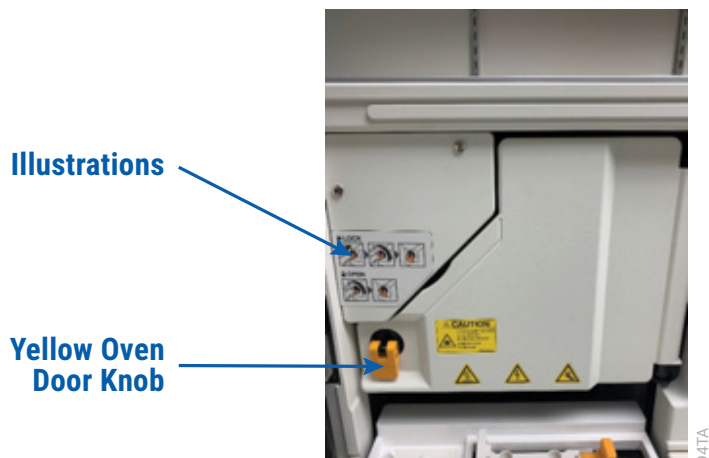

Figure 34. Spectrum Compact yellow oven door knob.
6. Open the oven door by turning the yellow knob on the lower left corner of the oven door counterclockwise 180 degrees as depicted in the illustrations on the oven door (Figure 34). Remove the previously used capillary cartridge by pulling on the yellow gripping knob in the middle of the Spectrum Compact Capillary Cartridge. If the capillary cartridge currently installed on the instrument will be stored for future use, follow instructions for Uninstalling and Storing the Capillary Cartridge (see Section 3.3).
10. Close the oven door by turning the yellow knob on the lower left corner of the oven door clockwise 180 degrees as depicted on the illustrations on the oven door (Figure 34).
6. Turn the yellow rotary oven door knob counter-clockwise 180 degrees to open the oven door (Figure 34).